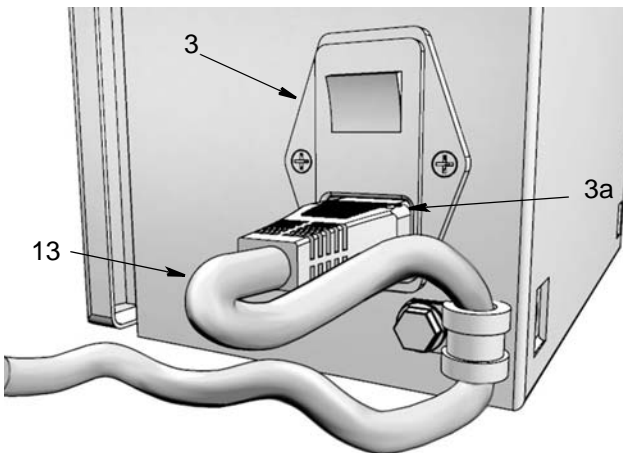

FIG. 25
2. Hard wire or install a plug to the bare end of power cord (13). Be sure to connect wires to the correct polarity:
- Brown wire - line (L)
- Blue wire - neutral (N)
3. Verify power switch (3) is in the OFF position.
4. Plug power cord plug (13) into connector (3a) located below switch (3).
6. Turn power switch to ON as shown in FIG. 25.